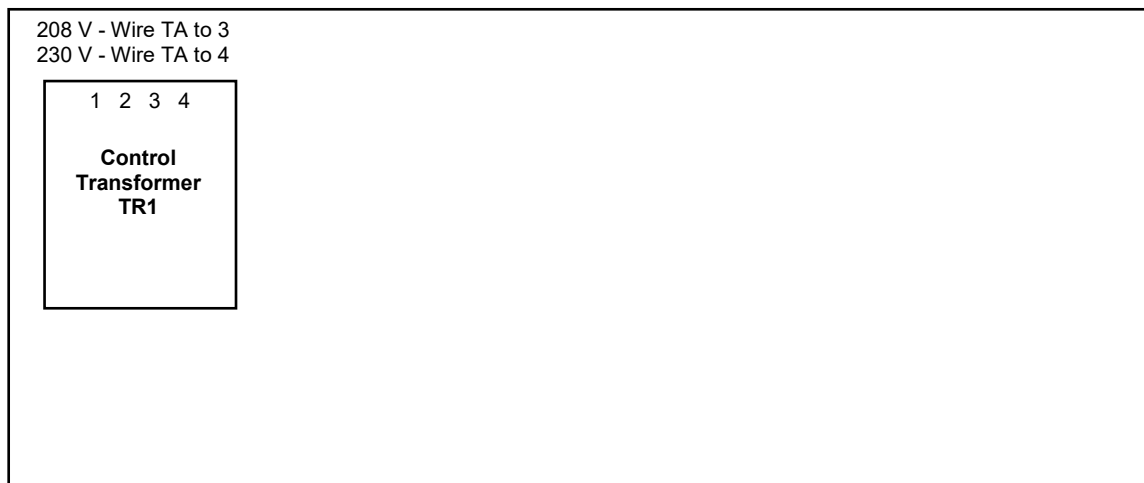

Figure 2-1 – Location of Input Configuration Terminals on the Electrical Sub Panel
**NOTE:** Refer to Figure 2-1 for the location of the input configuration terminals on the electrical sub panel that are described below.